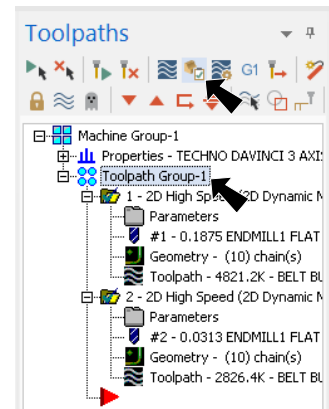

Fig. 57
Step 3. Click **Toolpath Group-1** in the Toolpaths Manager to select **both** toolpaths, Fig. 57.
Step 4. Click **Verify**  in the Toolpaths Manager, Fig. 57.